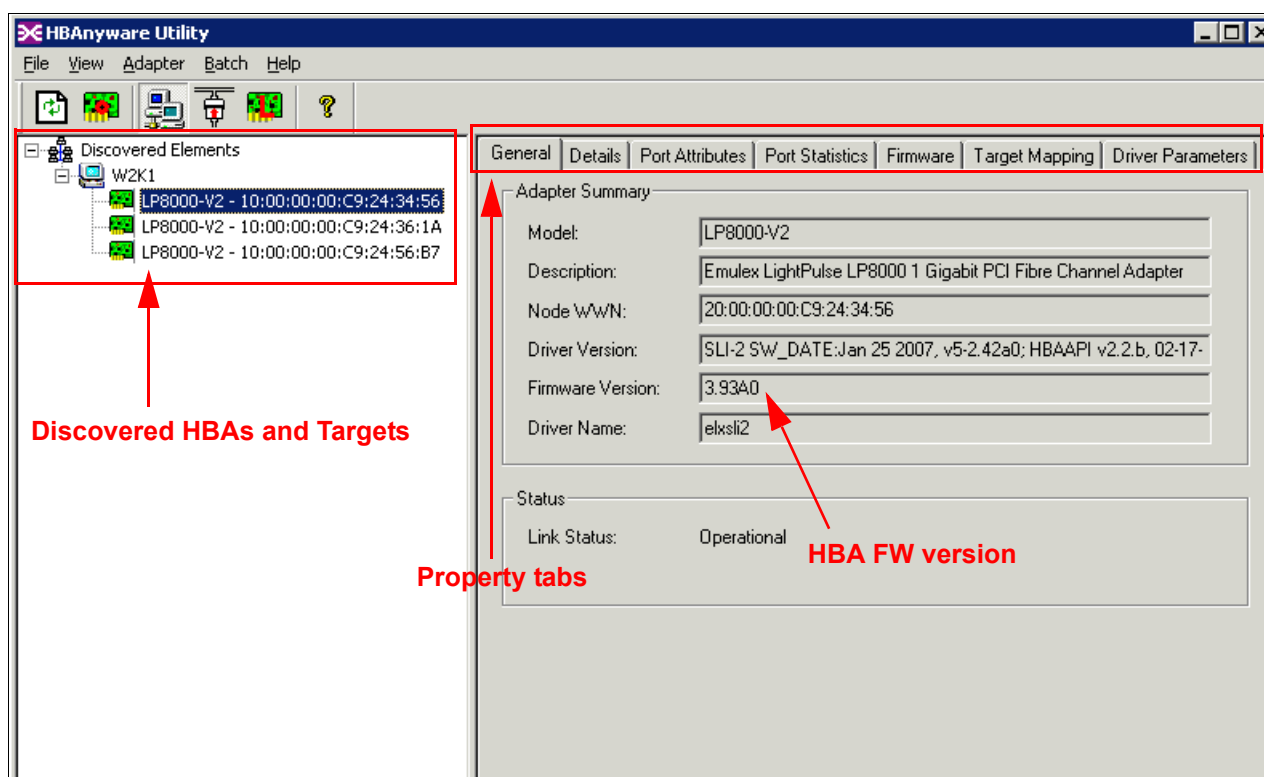

Figure 7-77 HBAnyware Utility main window
2. The initial discovery information for the host appears, as shown in Figure 7-77.